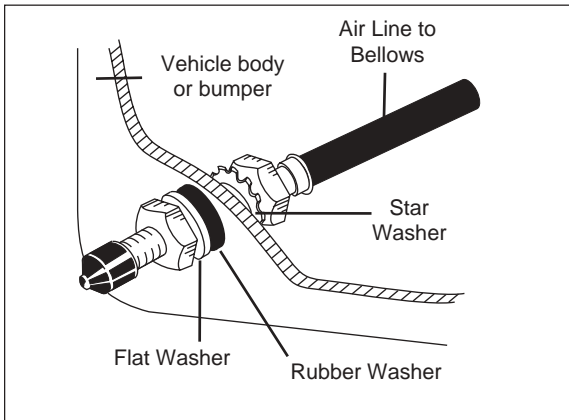

Figure 9
- b. Install the rubber washer on the outside. It is for weather seal (Figure 9).